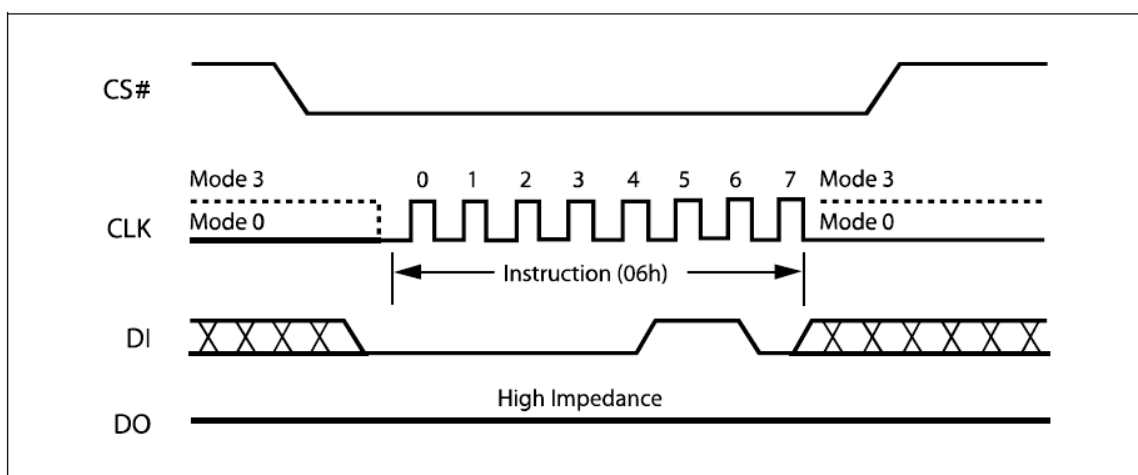

Figure 7. Write Enable Instruction Sequence Diagram
The Write Enable (WREN) instruction (Figure 7) sets the Write Enable Latch (WEL) bit. The Write Enable Latch (WEL) bit must be set prior to every Page Program (PP), Sector Erase (SE), Block Erase (BE), Chip Erase (CE) and Write Status Register (WRSR) instruction.